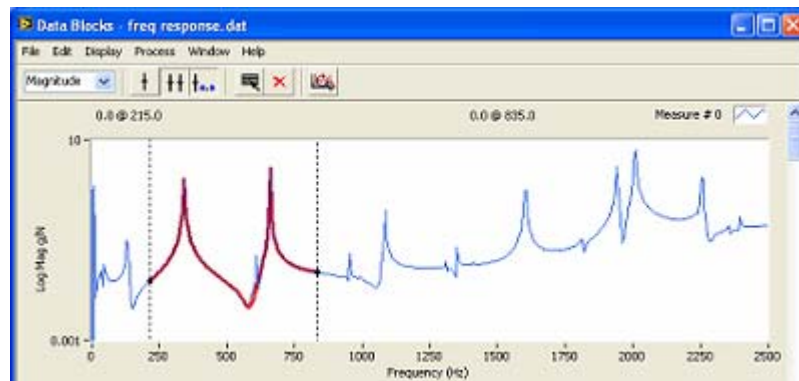

Figure 5-11 Synthesized FRF plot
- Check **Show FRF FIT** box, the red synthesized FRFs from estimated modes are computed and overlaid with original FRFs. The synthesized FRFs should match original FRFs well if estimated modes are accurate enough, as Figure 5-11 shows.